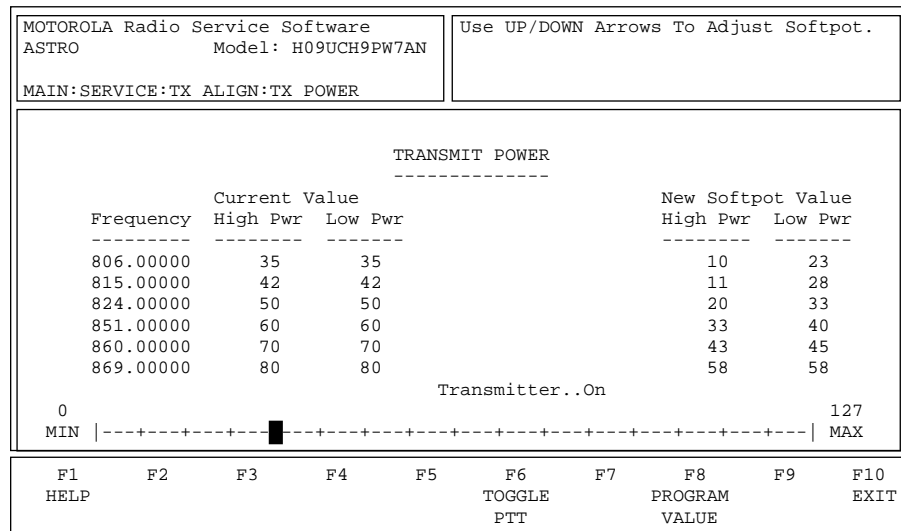

Figure 5 Transmit Power Alignment Screen
2. Press **C** to select the TRANSMIT POWER alignment screen. The screen will indicate the transmit frequencies to be used. See Figure 5.